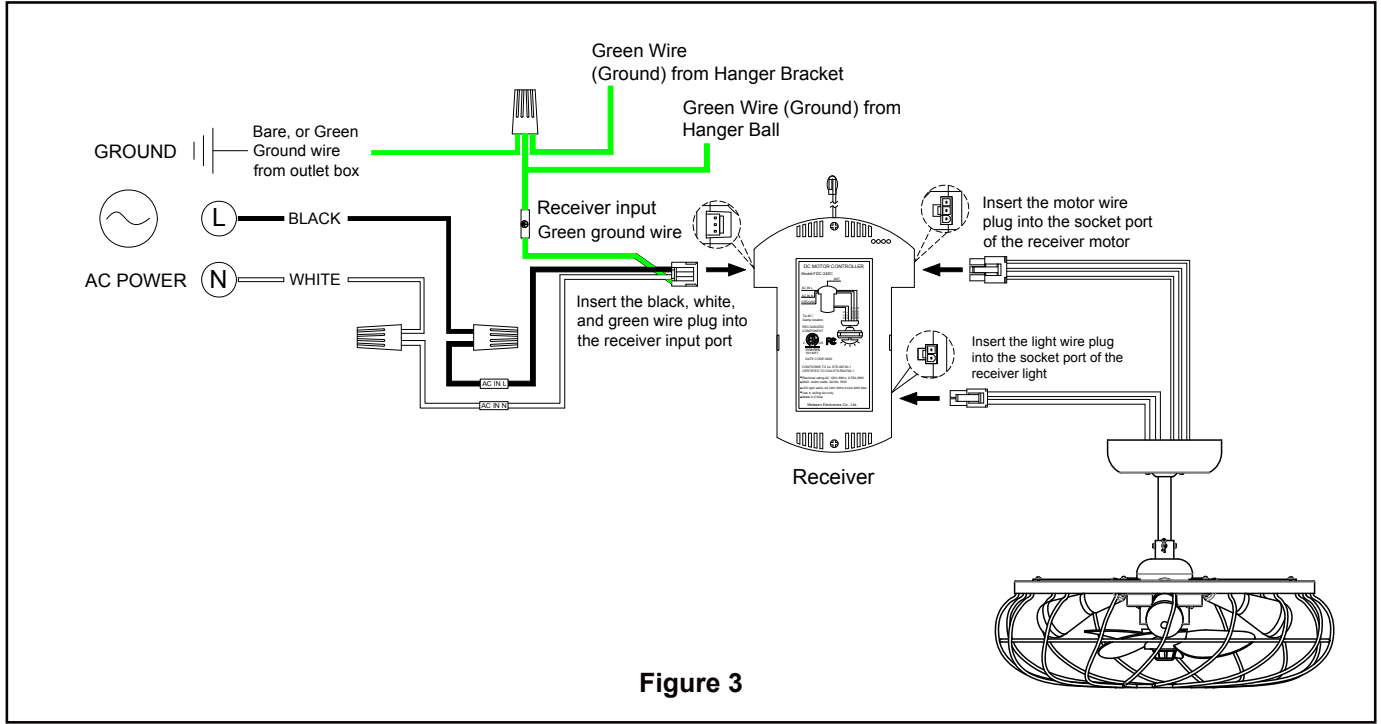

Figure 3
2. Connect green wires from Receiver input Green ground wire and hanger bracket and downrod to bare (ground) wire using wire connector. Connect black wire from Receiver input unit marked “AC IN L” to black supply wire using wire connector. Connect white wire from Receiver input unit marked “AC IN N” to white supply wire using wire connector. Connect the motor plug wire to the receiver output corresponding motor female socket. Connect the light plug wire to the receiver output corresponding light female socket. (Figure 3)